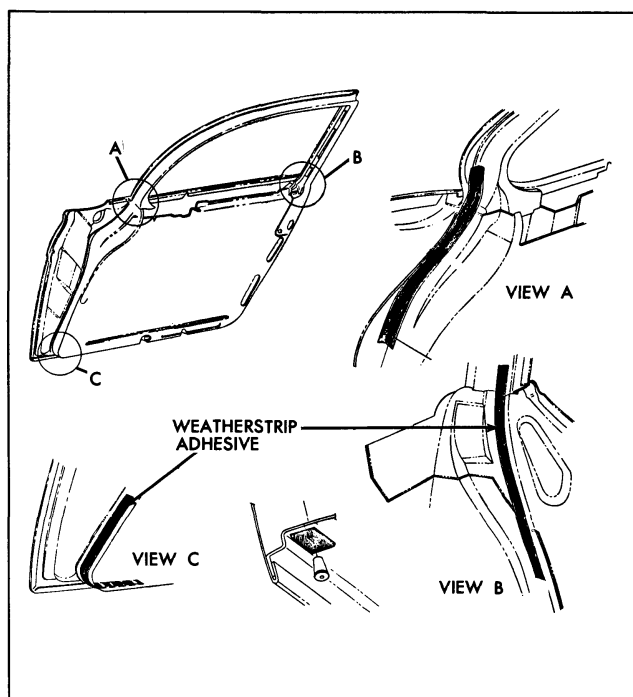
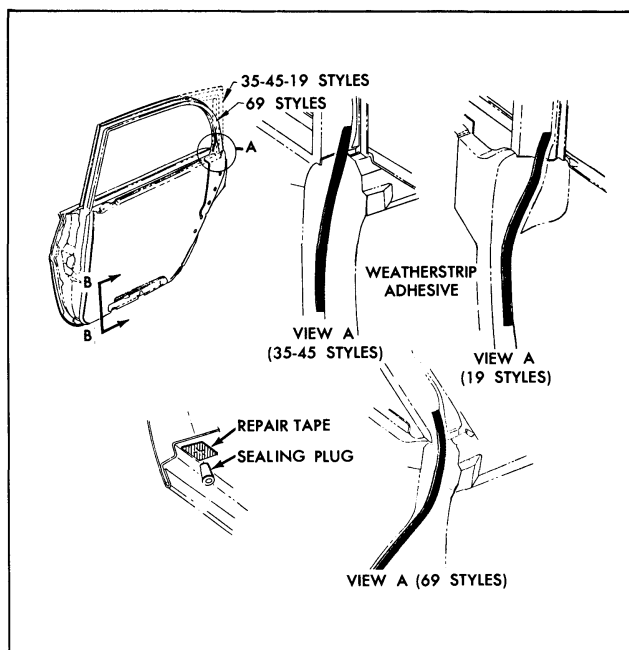

Fig. 3-11 Weatherstrip Adhesive
Fig. 3-12 Weatherstrip Adhesive
1. Carefully break cement bonds securing weatherstrip to door. A flat-bladed tool, such as a putty knife, will prove helpful in breaking cement bond. See Fig. 3-11 for front door cement usage and Fig. 3-12 for rear door cement usage.
2. Clean off old cement from door to insure a clean cementing surface. Apply a bead of an approved weatherstrip adhesive to door, as depicted in Figs. 3-11 and 3-12.